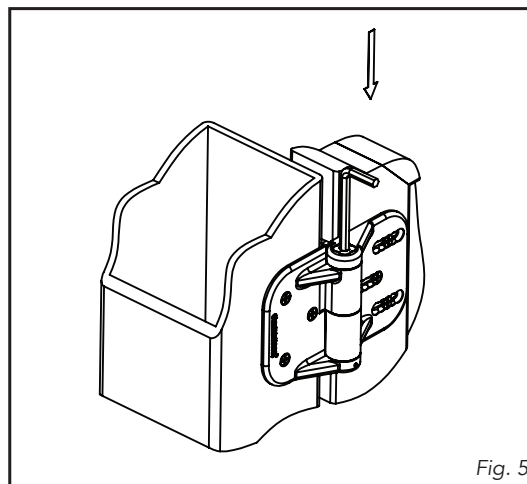

Fig. 5
2. Press the wrench downward, pushing the cam into the barrel (Fig 5).